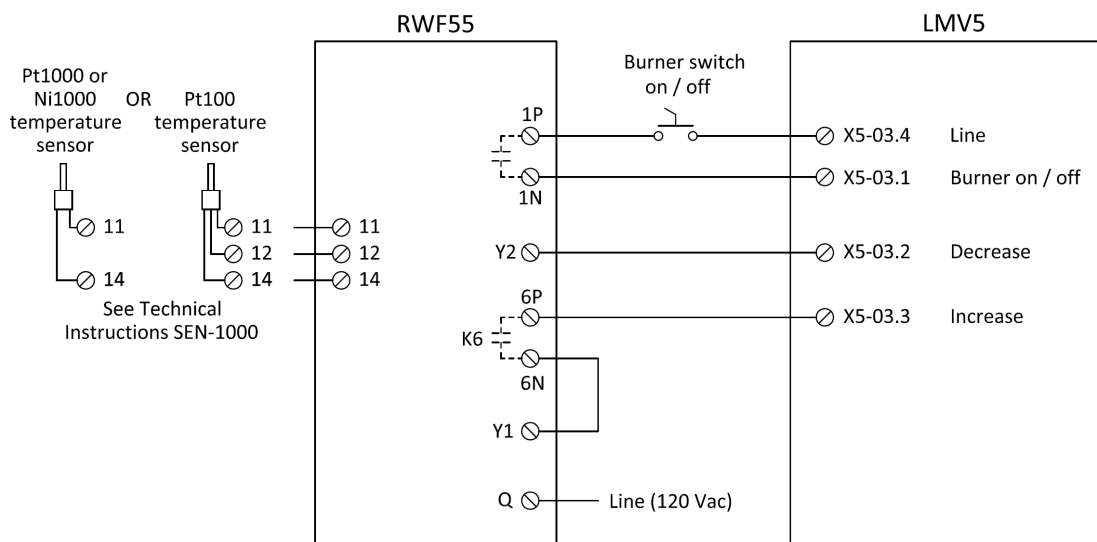

Figure 10: Low Fire Hold via 3-position Output on a Hot Water Boiler
3. Wire the LMV5 and RWF55 as shown in Figure 10: